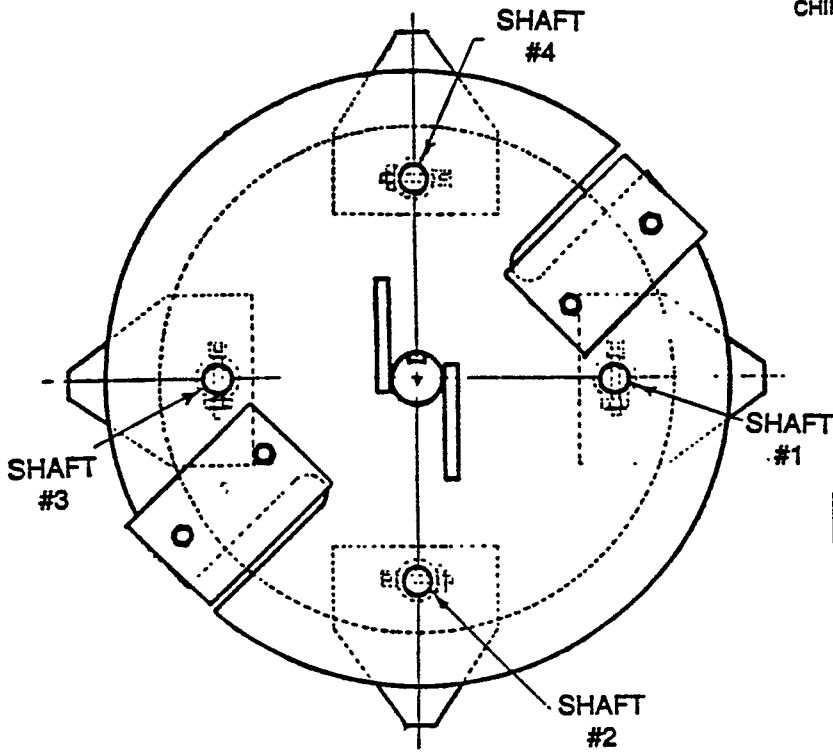

FIG. 1
Before operating machine, disconnect hitch from the tractor and Chipper/Shredder. Before using tow hitch, the Hitch Bracket (4) must be properly positioned. Place Hitch Bracket (4) in front two holes with a 8 HP model, rear two holes for 5 HP model. Holes in the Hitch Bracket (4) are slotted to provide adjustment. Tighten bolts (1) to 20 ft. lbs. (SEE FIG. 1)